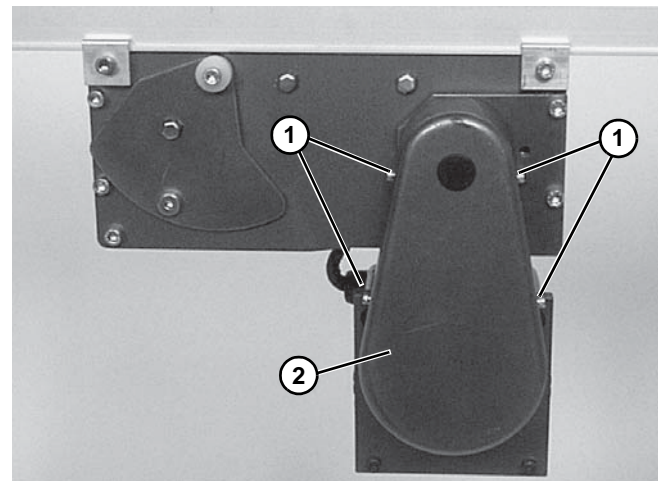

Figure 45
- Remove cover screws (**Figure 45, item 1**) and remove cover (**Figure 45, item 2**).